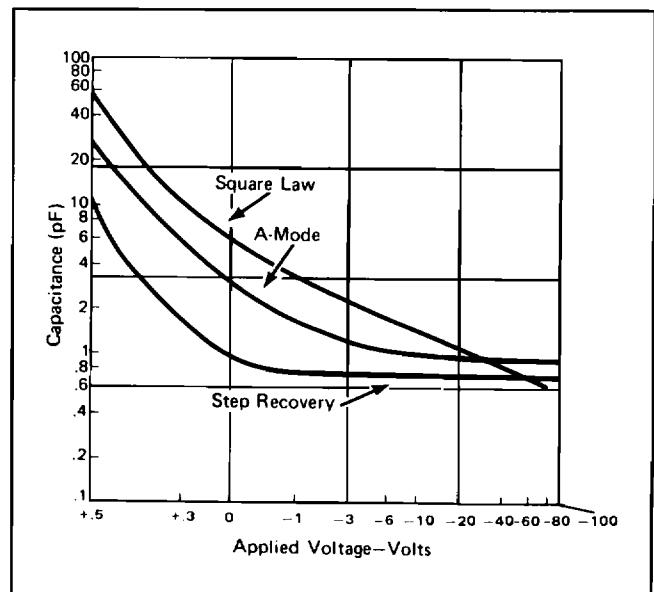
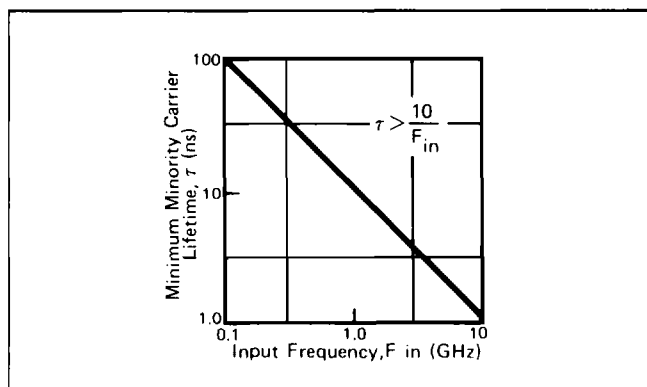
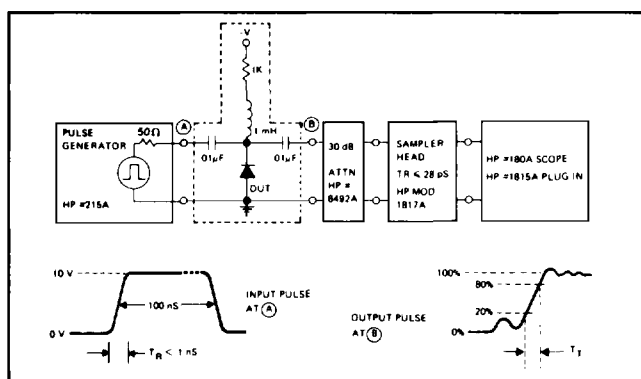
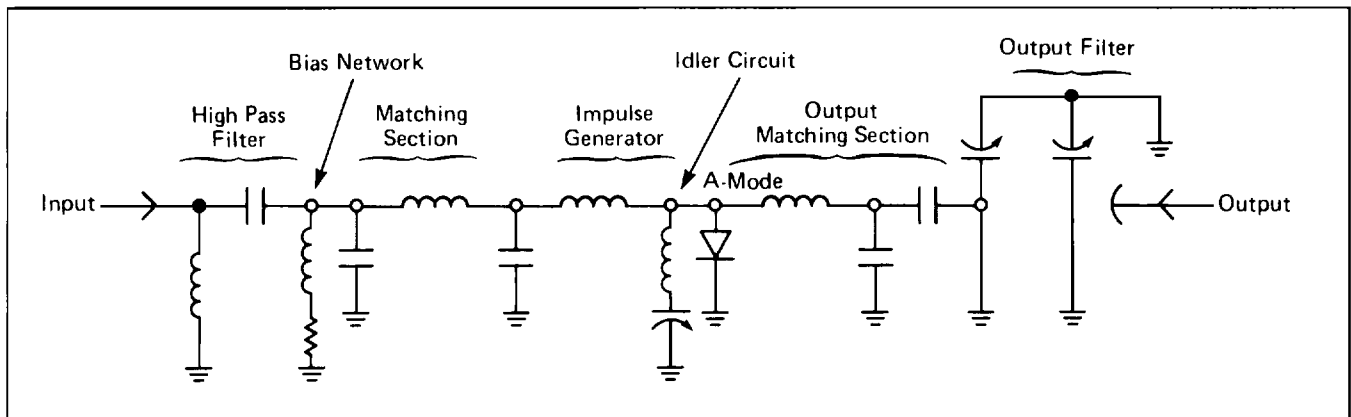

Figure 1. Capacitance vs. Applied Voltage for Square Law and A-Mode Multipliers and Step Recovery Diodes
Figure 2. τ vs F_{in}
Figure 4. Minority Carrier Lifetime, τ , Test Set-Up
Figure 6. Typical A-Mode Multiplier Circuit
than the period of the output frequency. Figures 2 and 3 are graphs which can be used to easily determine the limiting values s and T_T . Test circuits to determine t and T_T are shown in Figures 4 and 5. For optimum performance an ideal A-Mode will be a punch-through device at minus 10 volts (any increase in reverse bias above minus 10 volts will not decrease capacitance significantly), but will have a highly non-linear capacitance increase as the diode is toward zero volts. This can be clearly seen in Figure 1. A-Mode diodes are highly efficient, and circuits with 10 to 20% bandwidth are possible. Idlers are needed for $N > 2$. A typical A-Mode circuit is shown in Figure 6.
3. Measured in Circuit of Figure 4; $I_F = 10$ mA, $V_R = 10$ Volts.